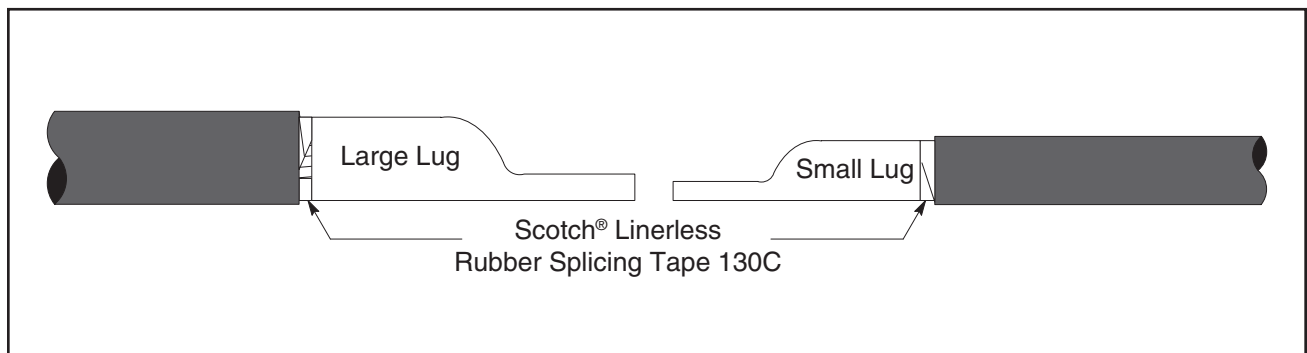

Figure 1
- 2.2 FOR 8kV ONLY. Fill lug/insulation gaps with Scotch® Linerless Rubber Splicing Tape 130C (*Figure 1*).